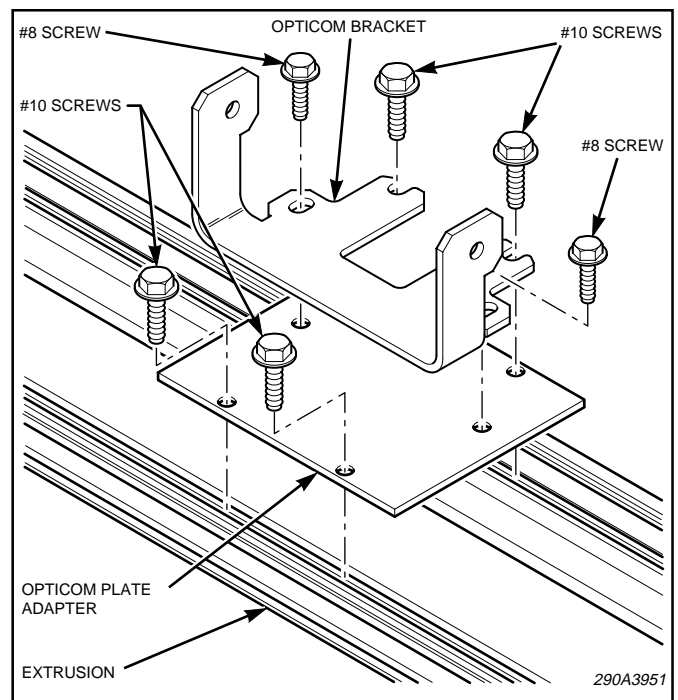

Figure 1.
4. Secure the bracket and the plate to the extrusion using the supplied #8 and #10 hex head thread-forming screws as shown in figure 1.